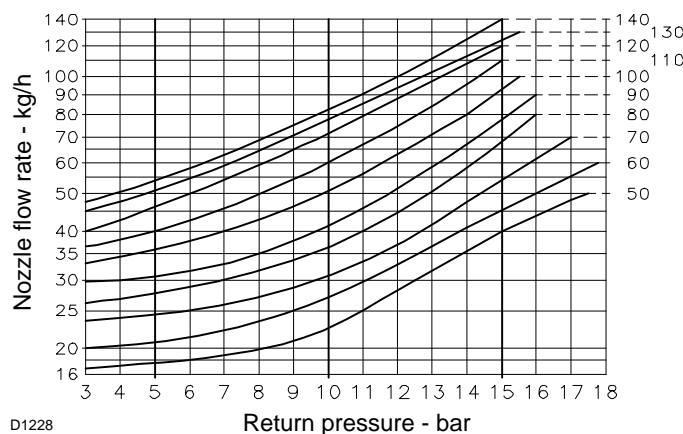
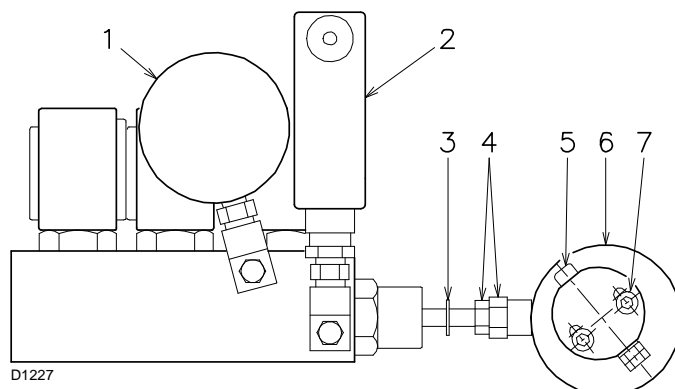

Fig. 27
Fig. 28
Diagram (Fig. 27) indicates this relationship for type A3 and A4 Bergonzo nozzles with pump delivery pressure of 20 bars.
The nozzle return pressure value is indicated by the pressure gauge 1)(Fig. 28).
- Do not let the piston beat repeatedly: the stop ring 3)(Fig. 28) determines the max. stroke.
- When the setting is carried out, verify manually that no slow-down occurs between 0° and 130° and that the maximum and minimum pressures correspond to those chosen as per diagram (Fig. 27).
Key (Fig. 28)
The nozzle flow rate is given in diagram (Fig. 27) corresponding to the pressure on the nozzle return read on the pressure gauge 1)(Fig. 28).